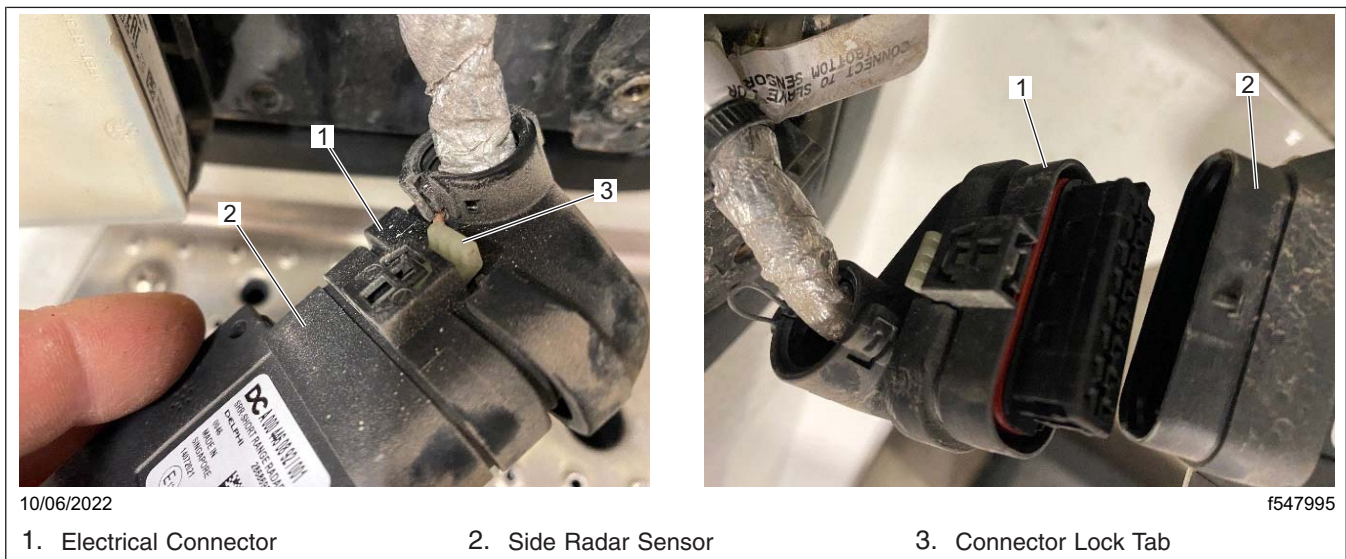

Fig. 3, Disconnecting the Connectors
- Release the connector lock tab and disconnect the connector from the side radar sensor. See Fig. 3.